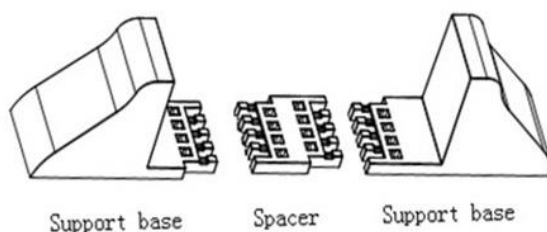

Fig.2-1 Support Bases and Spacers Assembly
- 1) Take out the support bases and spacers and then assemble the spacer and the support bases, shown as Fig.2-1.